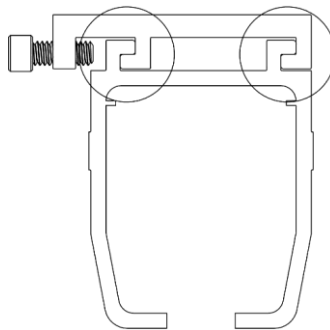

Figure 19: ***Track alignment tabs, fully seated in bracket***
- Make sure the alignment tabs are fully seated, as shown in Figure 19.